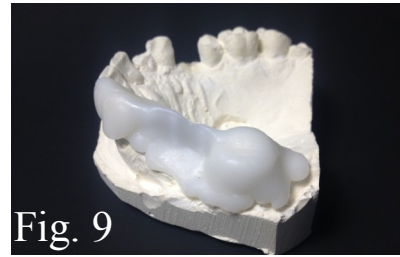

Fig. 9
5. Form the SG™ Plast over the target area (including the ridge, the adjacent teeth and the radiopaque rod(s)) to form a baseplate (Fig.9).